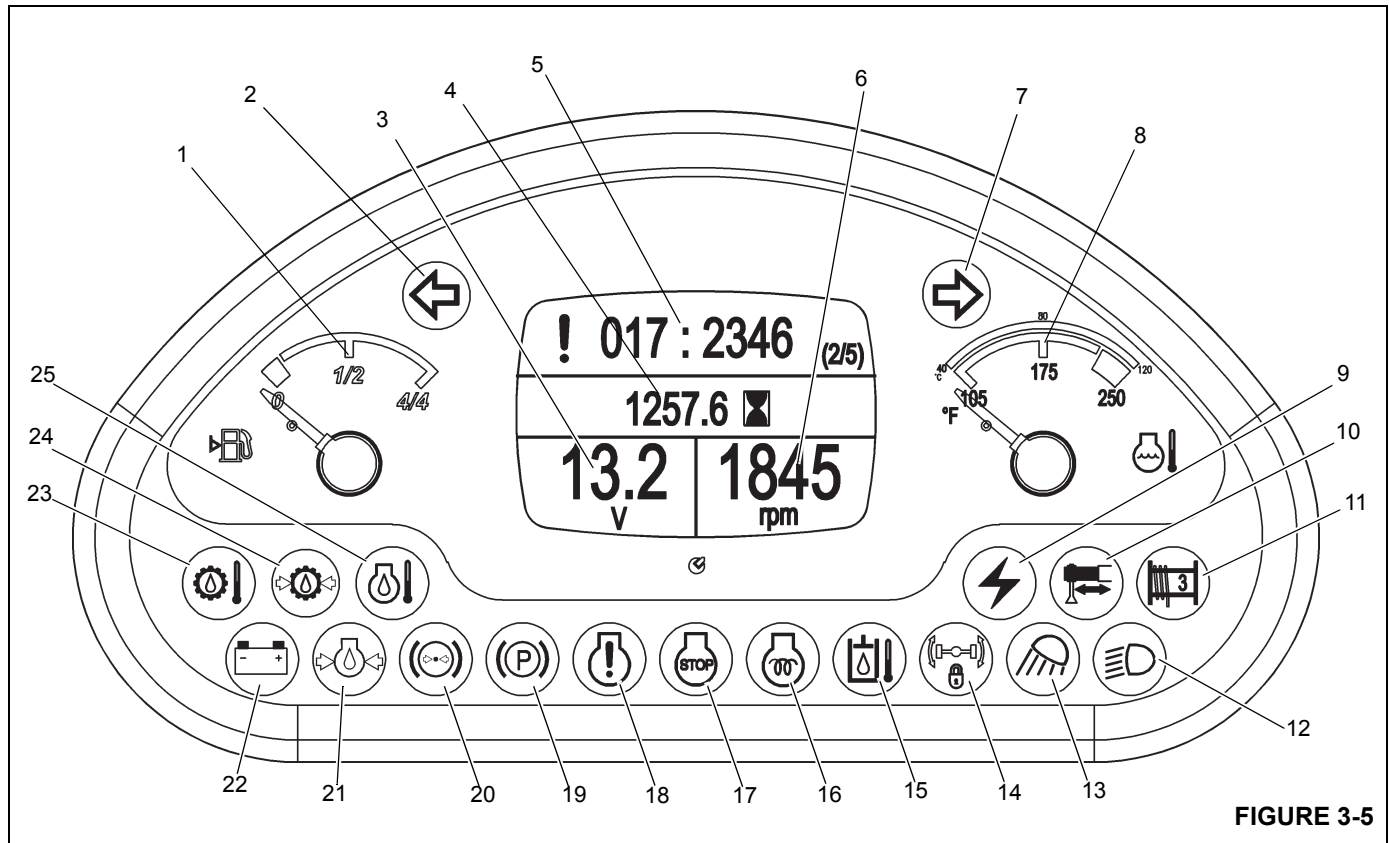

FIGURE 3-5
The Fuel Gauge (1) (Figure 3-5) indicates the quantity of fuel in the fuel tank and has a scale calibrated from 0 (empty) to 4/4 (full). The fuel gauge receives a signal from a sending unit in the fuel tank.
If the condition persists, the stop lamp (Figure 3-5) will flash to warn the driver that the engine should be shut down and the problem resolved before starting the engine again.